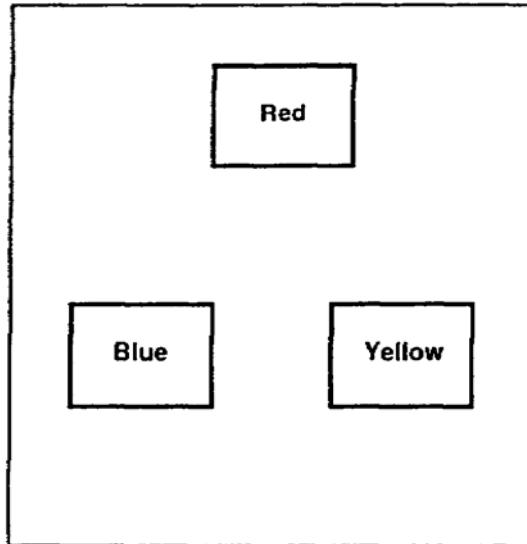

Figure 2-1. Primary colors
(1) **Primary colors.** There are three primary colors (Figure 2-1). They are blue, red, and yellow.